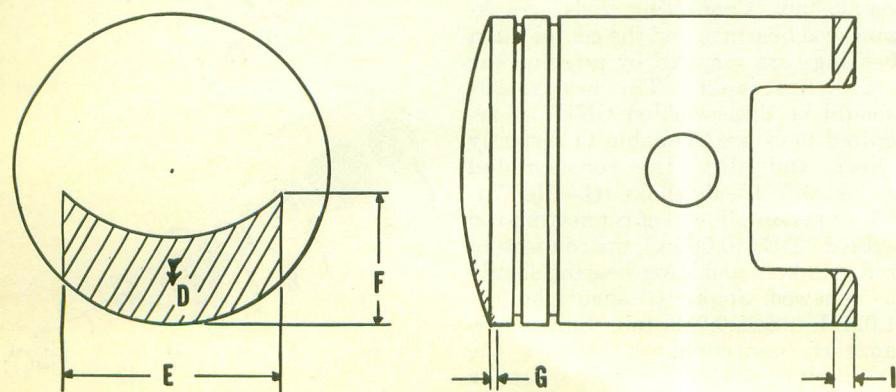

Fig. YT4-1-Areas of piston to be modified. Refer to text for appropriate dimensions.
Pistons (for 125cc models) should use only top (chrome) ring and should have 0.140 inch removed from skirt (I—Fig. YT4-1). All other dimensions remain standard.
Pistons for 180cc models may be modified to road racer specifications by removing 2MM (0.078 inch) of metal from area adjacent to exhaust port (D—Fig. YT4-1). Cut should be 29MM (1.141 inch) wide (E) and should taper back 12MM (0.472 inch) toward center